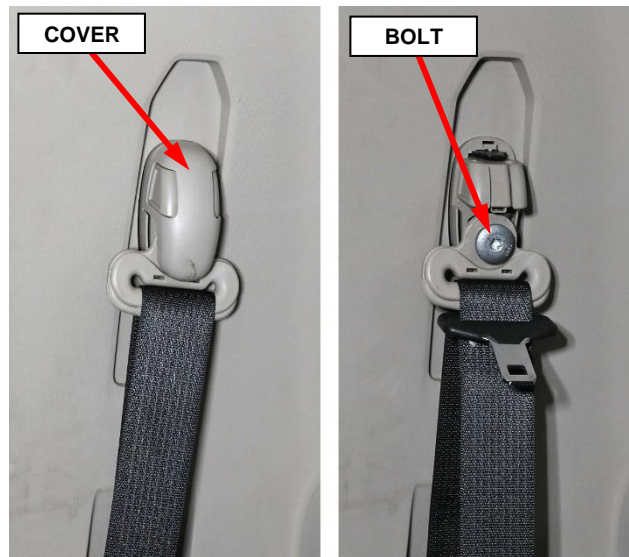

Figure 70 – Seat Belt Turning Loop
7. On the B-pillar, separate the seatbelt turning loop cover then remove the turning loop bolt (Figure 70).